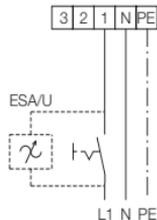

Fig.1
- **Disassembly:** Turn the fan cover so that the recess in the cover is at the press opening. Then loosen the click connection in the middle using a screwdriver and remove the cover (see Fig. 1).
- **Disassembly:** Insert a screwdriver (approx. 8 mm) between a click connection of the fan part and the fan casing and move the fan part upwards slightly (see Fig. 1). The click connection will detach itself. Loosen the other click connections using a screwdriver and remove the fan part upright from the fan casing.